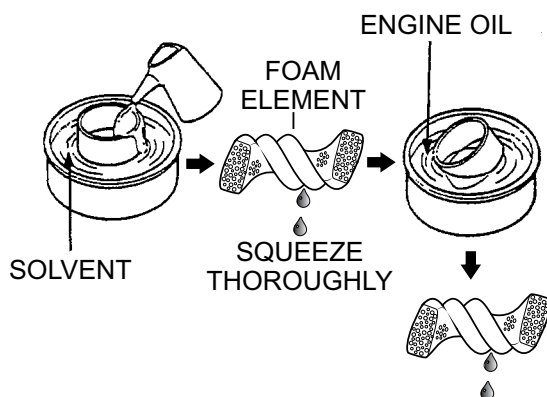

Figure 28. Cleaning Foam Element
2. Clean foam element (Figure 28 in warm, soapy water or non-flammable solvent. Rinse and dry thoroughly.